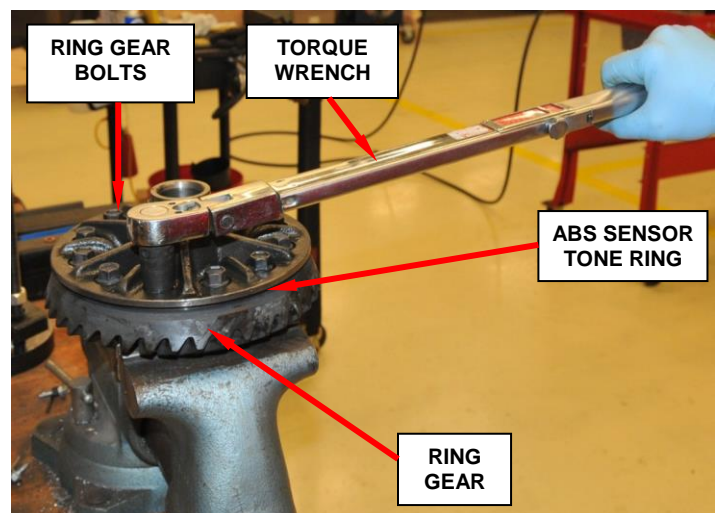

Figure 32 – Tighten Ring Gear Bolts
34. Install all of the new ring gear bolts and alternately tighten to 115 ft. lbs. (156 N·m) (Figure 32).